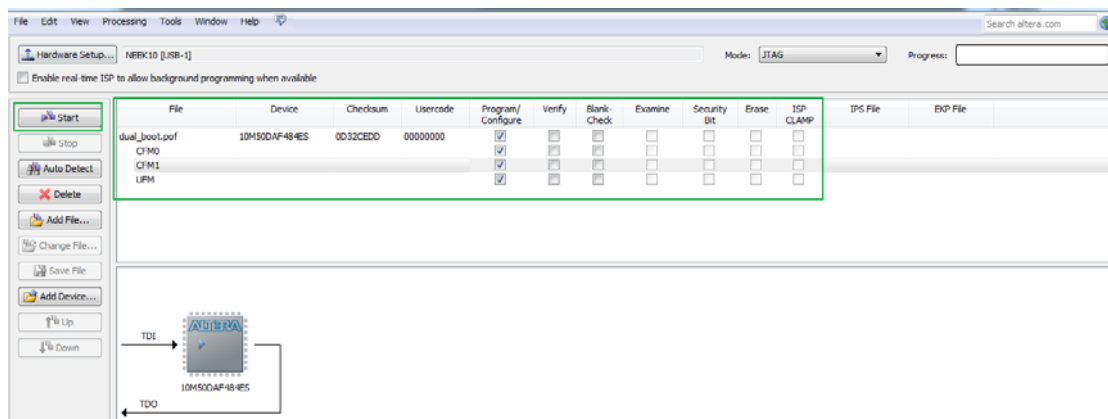

Figure 8-8 Download the pof
- The final step is to download the pof into MAX10 FPGA. Open the programmer tool and add the dual_boot.pof as shown in **Figure 8-8**. Click Start button to program the device when the hardware is set OK.